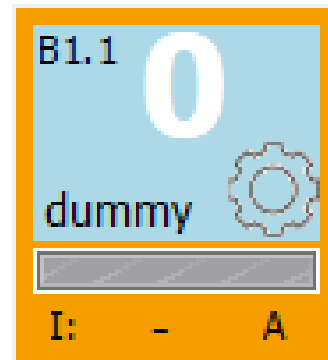

Figure 29 Electrical Boxes – Data Display – Secondary CcM device
- “Set Max. Current”: Nominal value of the maximum current of the thermal-magnetic switch or residual-current circuit breaker, to which it is connected. Based on this parameter, the colour of the indicator of the circulating current will change with regards to the maximum value of the electrical device (Figure 29).